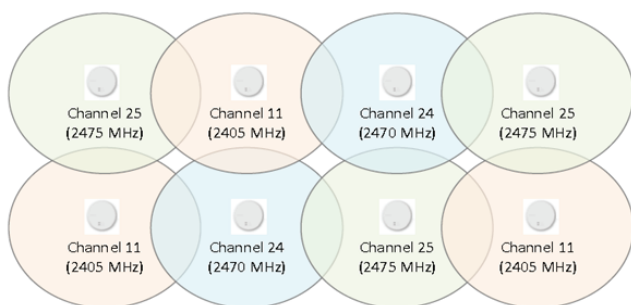

Figure 12 - Three Channel Reuse Plan for Single Floor with Multiple Subnets
- Lutron recommends a three-channel reuse plan throughout the space as shown in Figure 12. The Gateway and Lutron Designer PC and Programming Tool cycle through the 3 default channels as additional Gateways get added to the job site. It is up to the installer to ensure that the location and coverage of the Gateways adheres to the recommendations. If need be, the installer can choose a different set of channels through the Lutron Designer PC and Programming Tool based on results from site surveys or inputs from site owners.